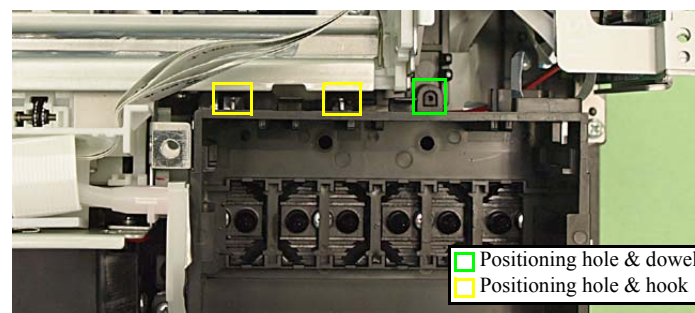

Figure 4-80. Installing the Cartridge Box Unit
- Make sure to align the positioning hole (x1) on the Cartridge Box Unit with the dowel (x1) of the Base Frame when reassembling them. (See Fig. 4-80.)
- When installing the Cartridge Box Unit, make sure to secure the hooks (x2) on the Main Frame to their positioning holes (x2). (See Fig. 4-80.)